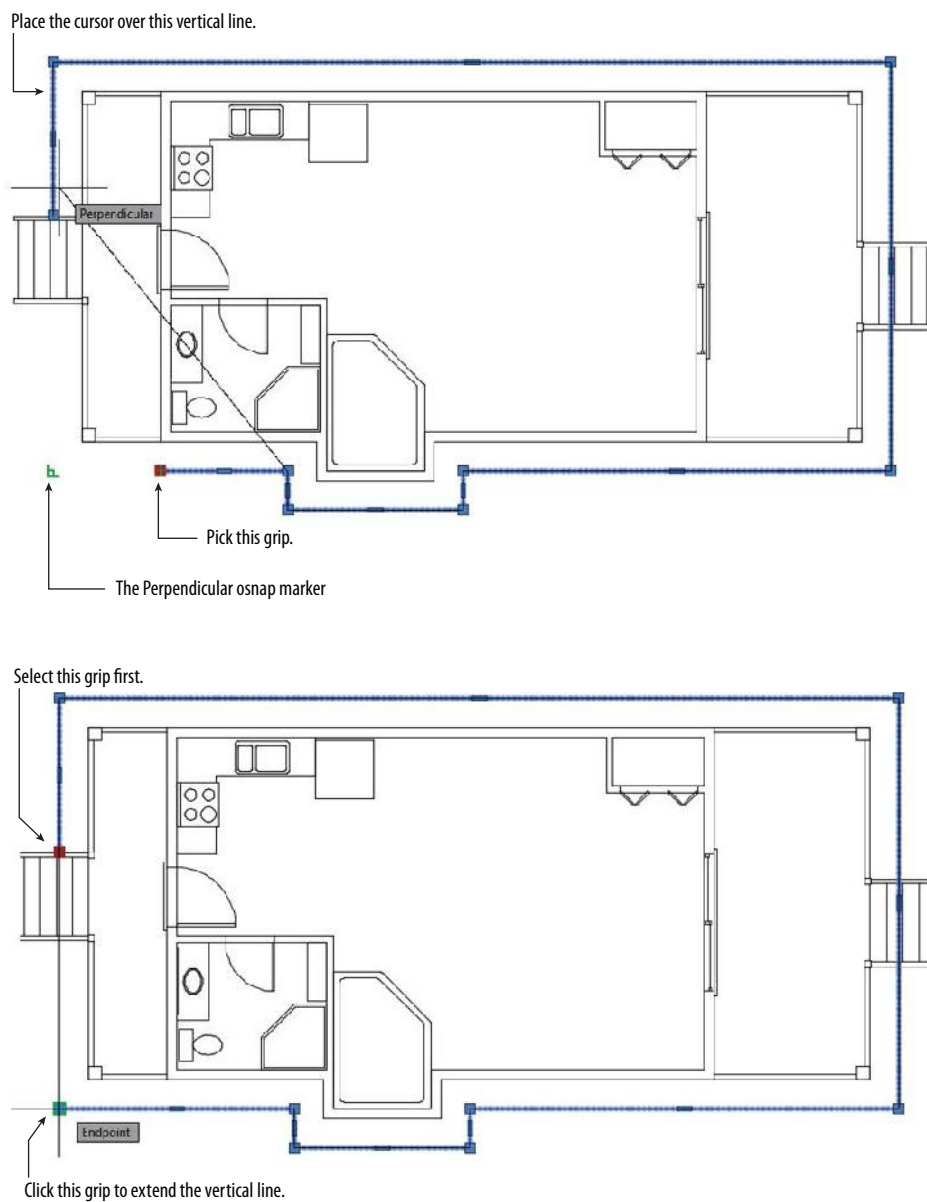

FIGURE 6.43: Using the grip to move the horizontal endpoint (top) and the vertical endpoint (bottom)
16. Click the grip at the open left endpoint of the horizontal segment (see the left of Figure 6.43).
19. Then click the open end of the horizontal line to move the first endpoint there (see the image on the right in Figure 6.43).